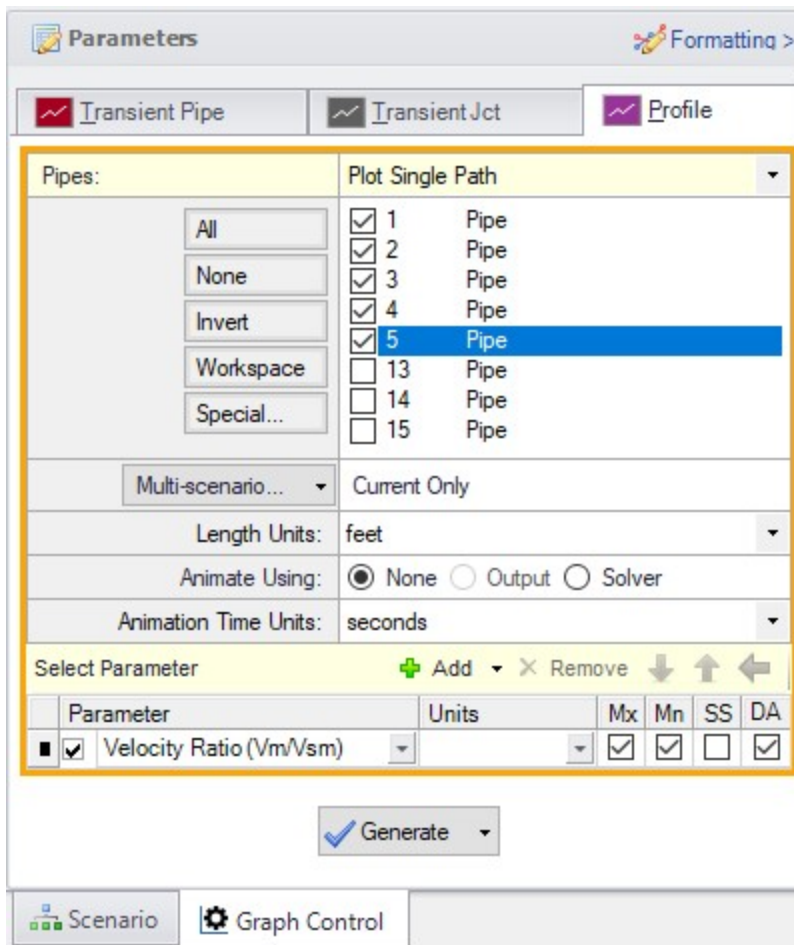

Figure 8: Data selection to view the velocity ratio along the flow path to Deposit #1
2. On the Profile tab in the Quick Access Panel, select Pipes P1 through P5 (Figure 8). These represent the flow path to Deposit #1.